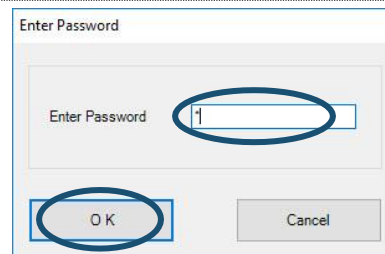

Figure 42: Enter password
- d. On the **Enter Password** screen (refer to Figure 42), enter the password. The default password is the number zero (0).